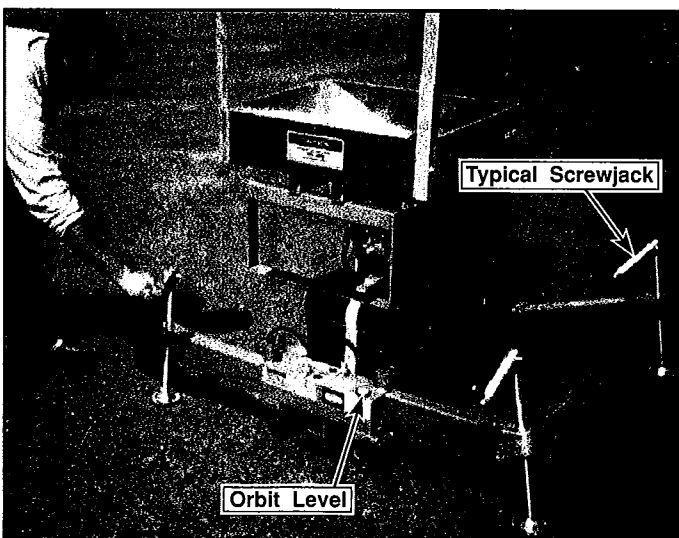

Figure 2: Leveling base
3. Level the base, centering the bubble in the orbit level on the base by adjusting the screwjacks at the end of each outrigger (Figure 2). **DO NOT** release the tension on an outrigger, by turning counterclockwise, to level base.
4. **All four (4) screwjack pads must be in solid contact with a firm surface before the platform is elevated.**